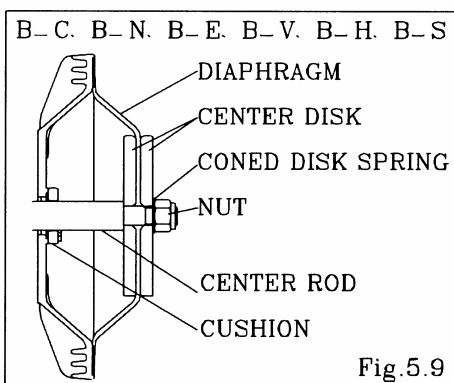

Fig. 5.9
- Fix a double nut to one end of the center rod and take the diaphragm and center disk off the opposite end. [Fig.5.9] Be careful not to scratch or score the center rod.
- Insert the cushion (except with the NDP-80). (cf. Fig.5.9)
- Draw the center disk to one side (exclude B_H, B_S type cf. Fig.5.9).